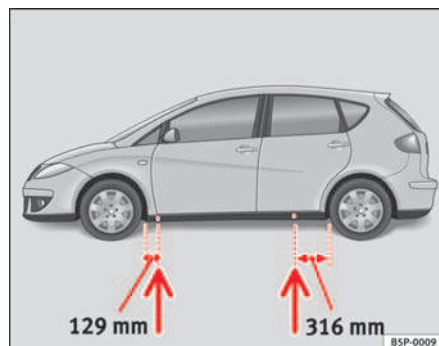

Fig. 167 The jacking points
- Locate the jacking point under the door sill closest to the wheel being changed ⇒ **fig. 167**.
Recesses at the front and rear of the door sills mark the jacking points ⇒ **fig. 167**. A position has been made for each wheel. Do not fit the jack anywhere else.